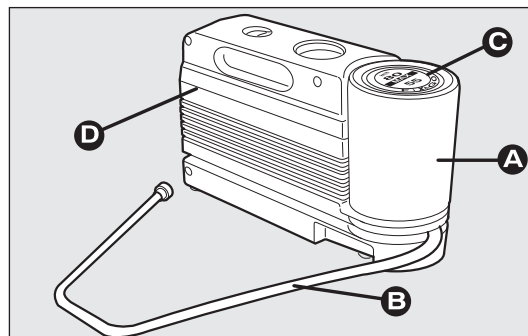

fig. 127
The kit fig. 127 includes:
- a compressor D-fig. 127 complete with pressure gauge and connectors, located in the compartment;